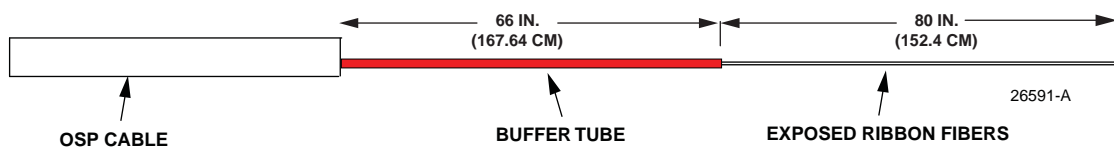

Figure 30. OSP Cable Breakout Dimensions
3. Break out the OSP cable corresponding to the dimensions given in Figure 30. Follow cable manufacturer's recommendations when stripping the sheath.